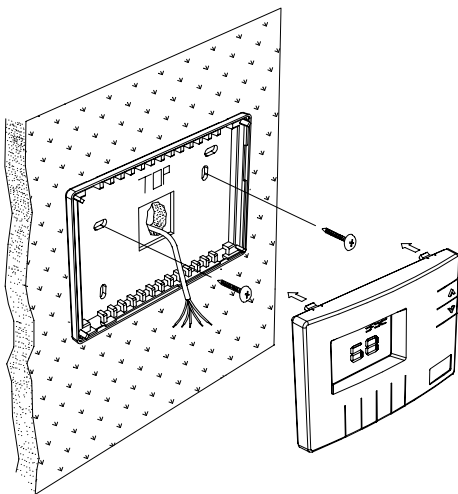

Figure 1 - *Mounting thermostat base*
6. Mount the base to the wall using the two #6 x 1/2" self-tapping screws supplied - See *Figure 1*.